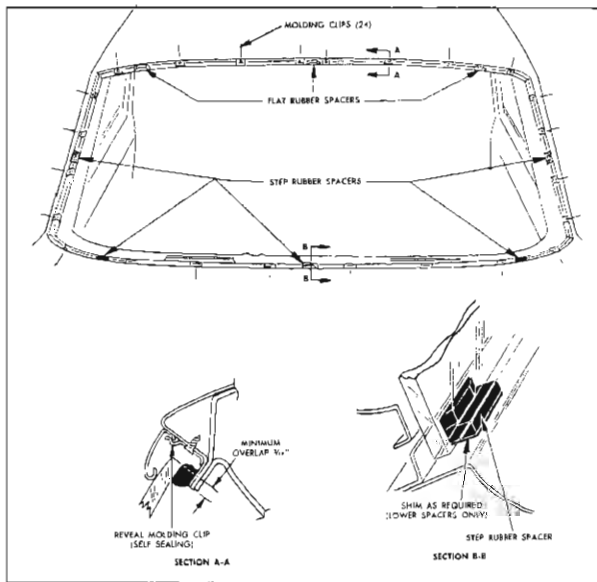

Fig. 11-21 Spacer and Reveal Molding Clip
3. Using weatherstrip adhesive (neoprene-type), cement eight (8) rubber spacers at bottom, sides and top of body opening at locations indicated in Fig. 11-21. The three flat-type spacers are used along the top of the opening. The five step-type spacers are used at the windshield pillars and along the bottom of the opening. Use a 1/16" thick waterproof shim under each of the three lower spacers.
4. Position replacement windshield glass in body opening. Carefully check relationship of glass to body pinchweld completely around opening. The overlap of glass to body pinchweld and retaining flanges should be equal with a minimum overlap of 3/16" (See Fig. 11-21, Section (A-A)). Where necessary, position waterproof shims under the lower spacers or trim spacers to obtain the required overlap of glass to body upper and lower flanges. Remove glass from body opening and place on protected surface or glass-holding fixture.
10. With aid of helper, lift glass with one hand on outside of glass and one hand on inside of glass. Carefully set glass on lower center spacer, maintaining glass in a near-vertical position. While one man holds glass in this position, the second man can reach around the windshield pillar and hold glass; then, first man can reach around windshield pillar (Fig. 11-21). Carefully position glass into opening, making certain that glass is properly positioned on spacers.